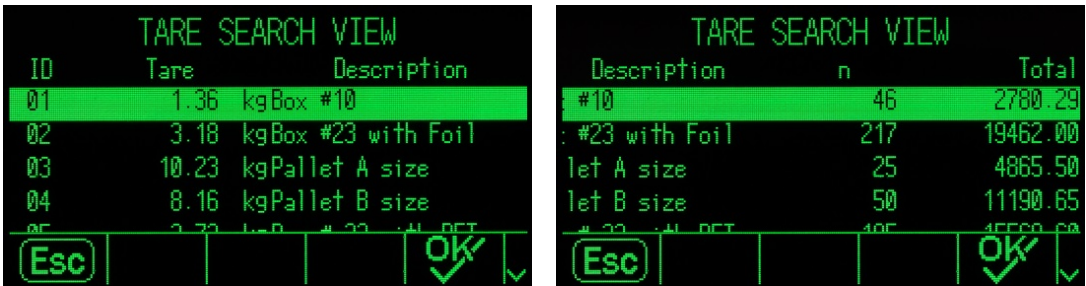

Figure C-4: Tare Table Search View Results
- 3. Press the SEARCH softkey . The table Search View screen displays with the search results sorted by ID. The file will have the lowest record ID at the top of the file and focus will be on that record. Press the RIGHT navigation key to move the view to the right to view the full record. Figure C-4 and Figure C-5 include screens to show the contents of further columns available in the view.
4. Press the SEARCH softkey . The table Search View screen (Figure C-4 and Figure C-5) displays with the search results sorted by ID.